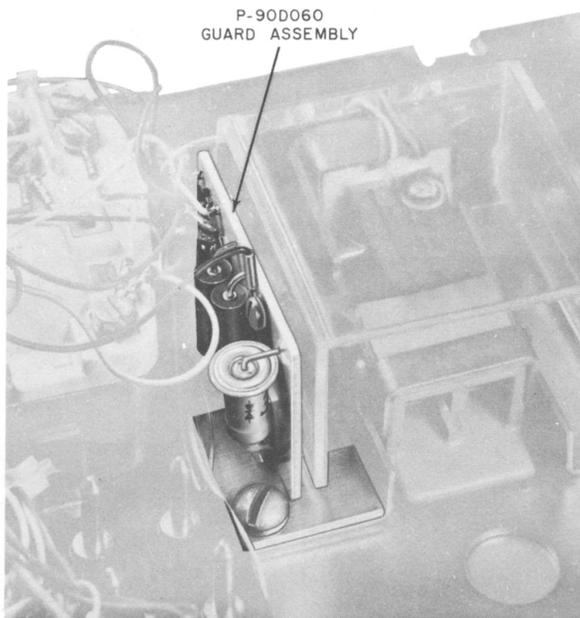

Fig. 3—Installed P-90D060 Guard Assembly
**3.04** An optional polarity guard (ordered separately) is available for use with these sets. It is intended for use when specified by local instructions for end-to-end signaling installations, refer to Fig. 3 and Table C for connections.